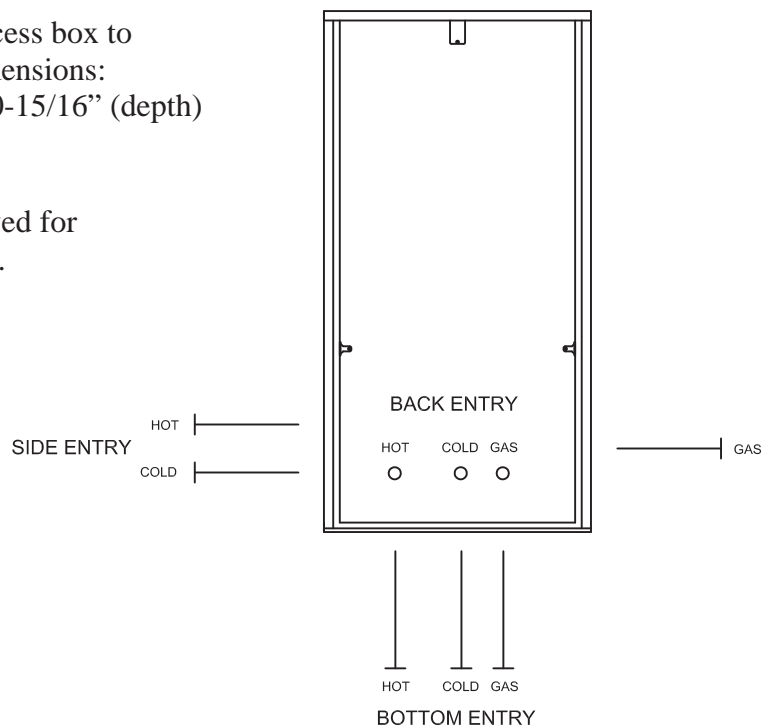

Figure 2: Piping options.
- Drill 3 holes in the recess box to accommodate the water and gas lines. Suggestions for the holes are shown in Figure 2. Additional holes for running the electrical and remote controller wires will be needed as well.